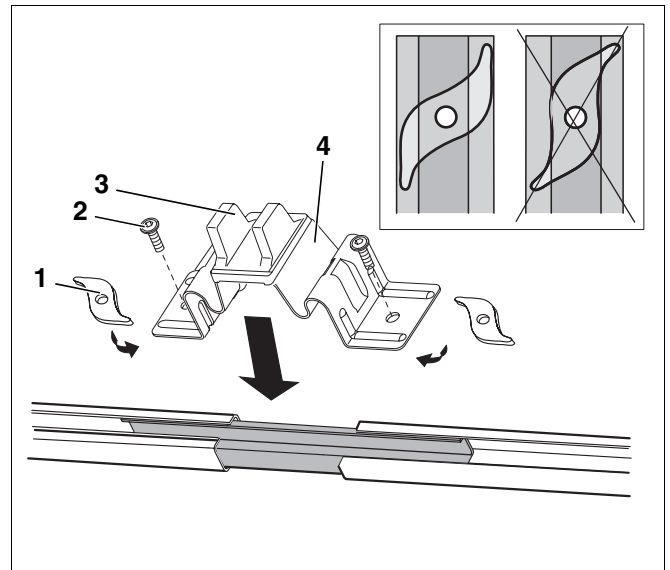
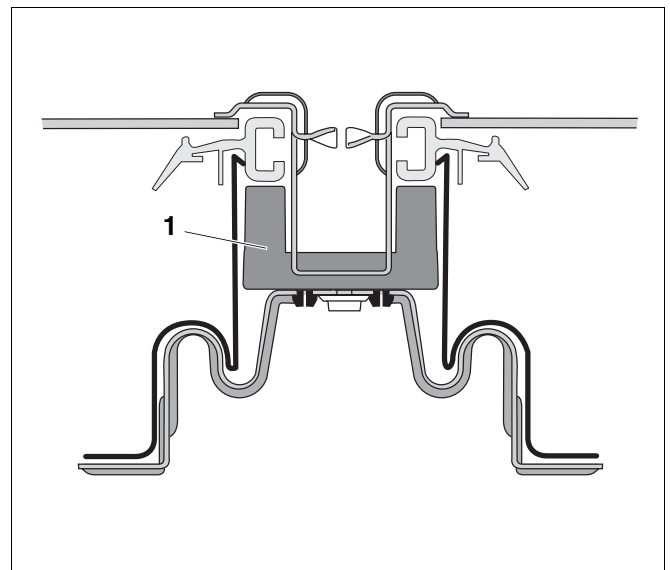

Fig. 13 Installation of the collector holder bridge
Fig. 14 View of the exact position of the spacer block
The threaded plates (Fig. 13, **Item 1**) are preassembled at the factory with the pan-head screws (Fig. 13, **Item 2**) to the collector holder link (Fig. 13, **Item 4**).
- Position the two collector holder links centrally Fig. 13 on the two profile rails (above the rail connector).
Make sure that the spacer block (Fig. 13, **Item 3** and Fig. 14, **Item 1**) is at right angles to the profile rails on the frame.
- Pay particular attention to the orientation of the threaded plates in Fig. 13.